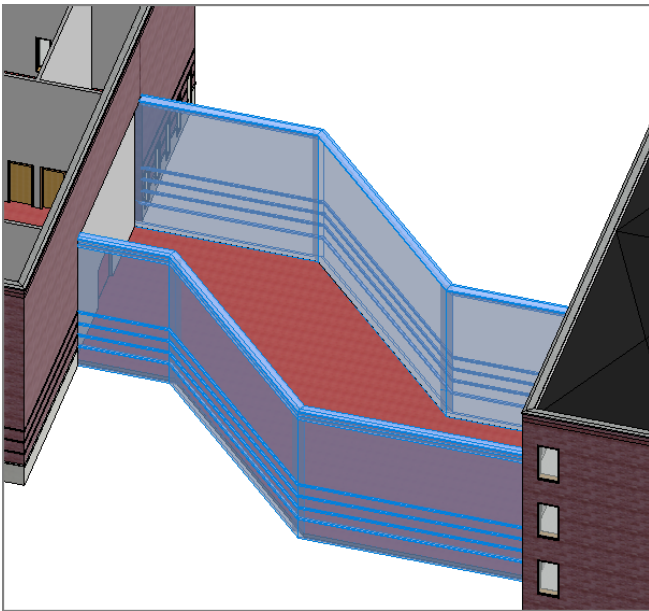

FIGURE 7.20: Select the six walls to be modified.
2. Select the six corridor walls, as shown in Figure 7.20.